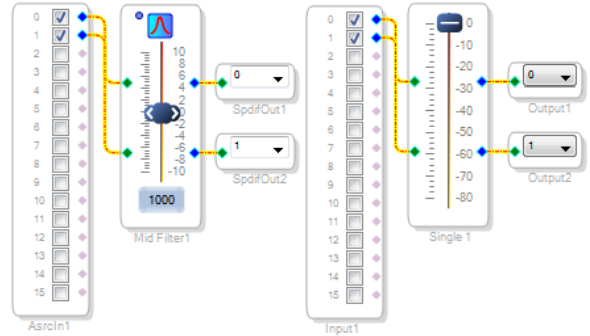

Figure 51. Completed Signal Flow
3. Connect the filter in series between the **Asrc Input** block and the **Spdif Output** blocks so that the filter can be applied to the signals passing through the DSP. The completed signal flow should resemble Figure 51.